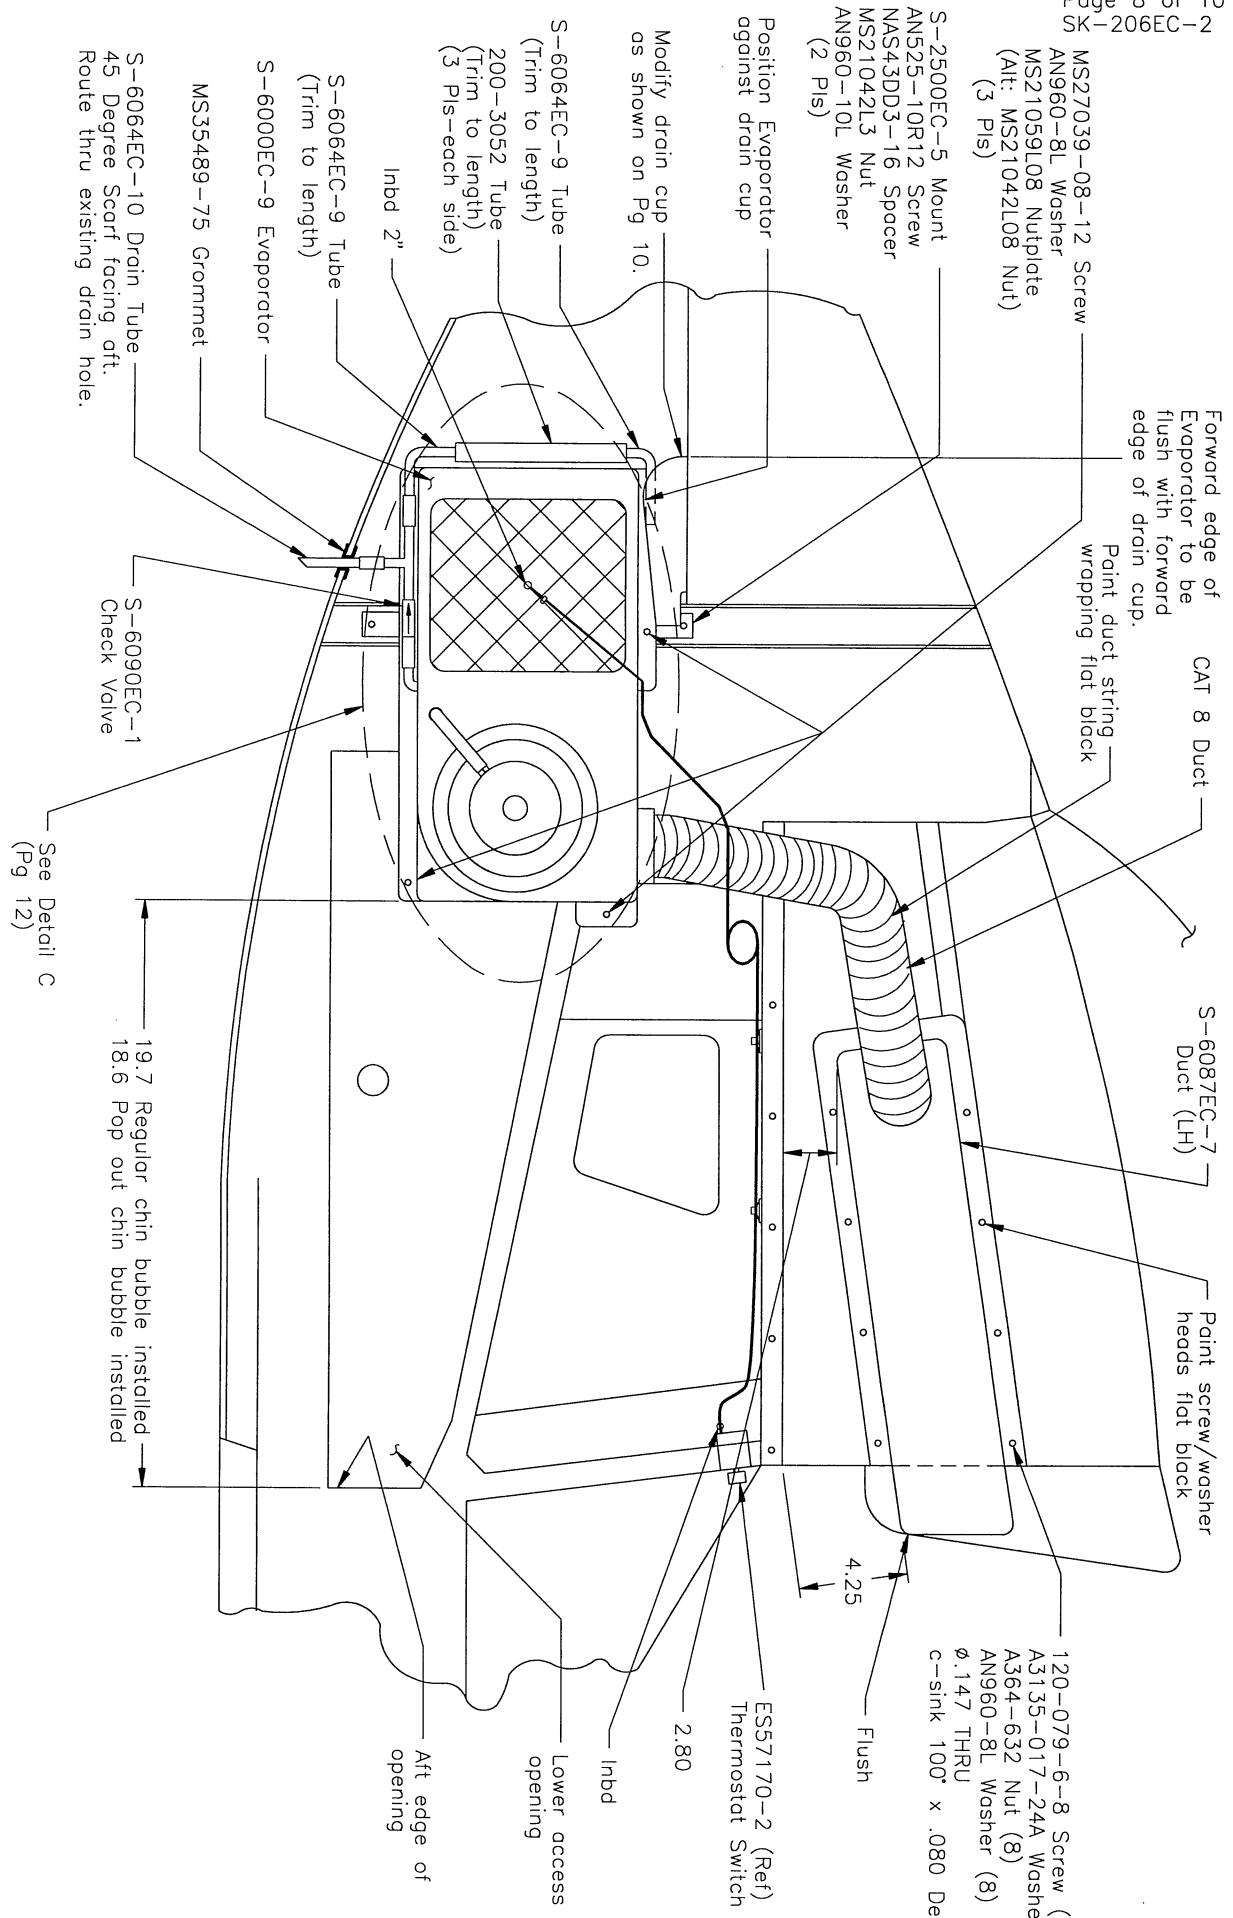

Figure 4
12. Position capillary tube of thermostat switch as shown using hardware supplied (fig.4).